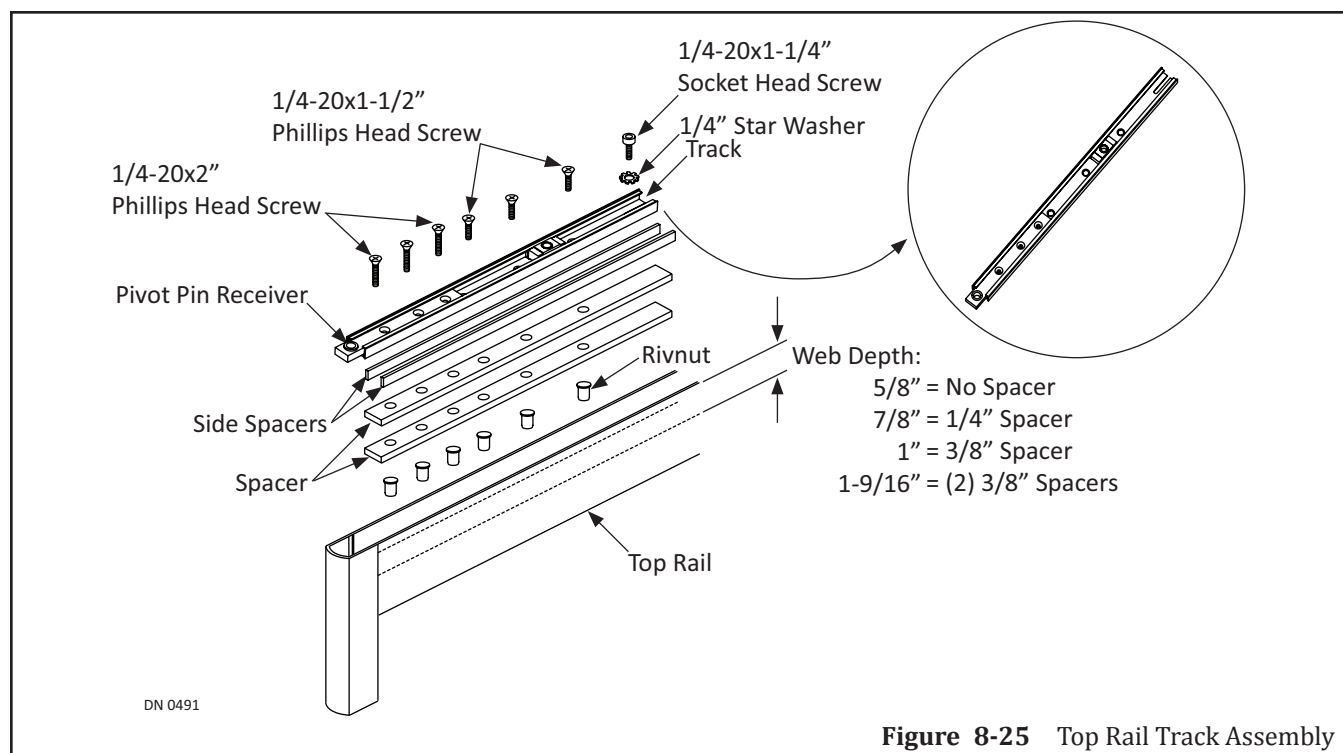

Figure 8-25 Top Rail Track Assembly
3. From the outer edge of the Pivot Stile measure 23-13/16 inches. Mark a vertical line across the horizontal line onto the Web Face. This is the center of (1) .322 anchor hole.
4. Drill (1) .322 anchor hole.
6. Insert (1) 1/4-20 tapped Rivnut into the .322 anchor hole.
7. Obtain the Track Assembly. Please see Figure 8-25.
8. Place (1) Spacer Block inside the Web according to the Web Depth:
- ▶ 1-9/16 inch deep: Insert (2) 3/8 inch Spacer Blocks.
9. Place (1) Track on top of the Spacer Block (or the Web if a Spacer Block is not used).
10. Place (2) 5/8 " x 1/16" Side Spacers on either side of the Track.